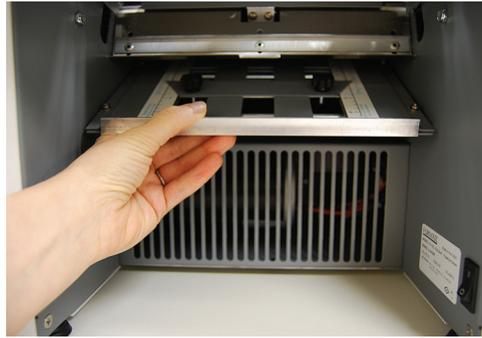
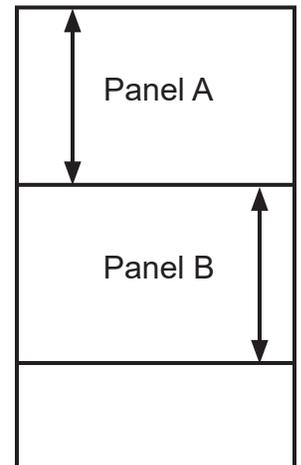

Figure 5b
Figure 5c
5. To reinstall the lower fold plate, slide the plate (with the thumbscrews facing up and throat toward inside of machine, figure 5b) until it rests on the two silver bars (figure 5a) and locks into place (figure 5c).